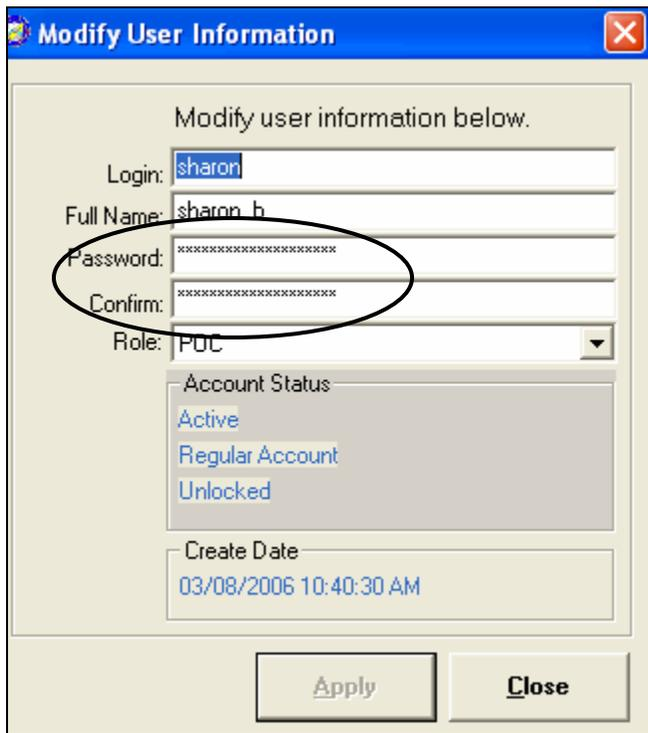

Figure 3.16
1. Click the 'Users' icon  from the main SAT screen. A window will appear that displays all user accounts. Double-click the user login whose password needs to be reset. Type a new password in the 'Password' and 'Confirm Password' fields as displayed below in Figure 3.16. Password requirements mandate that the password have a minimum of 8 alphanumeric characters. The password is also case sensitive.